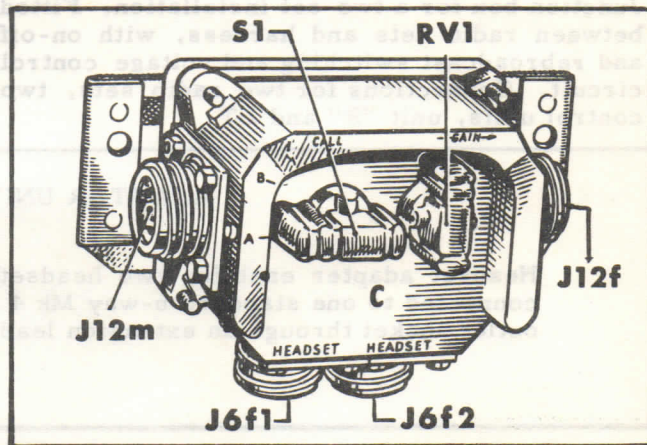
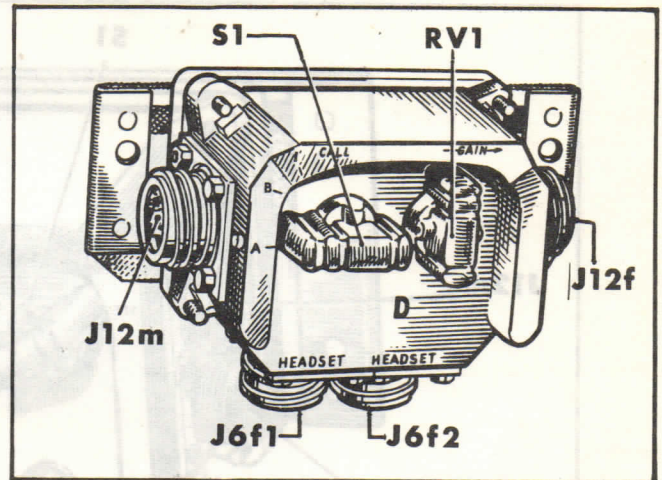
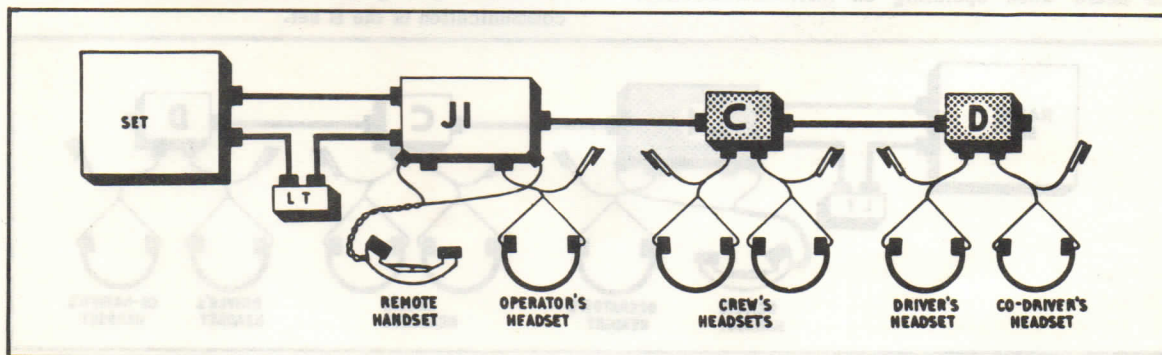

FIG 5 CONTROL UNIT, OPERATORS, C
FIG 7 CONTROL UNIT, DRIVER'S, D
FIG 6 CONTROL UNITS, C AND D
11. This is the operator's control box in either one set or two set stations. The unit is illustrated in Fig 5 and its position in a typical one set station is shown in Fig 6. The operator's control unit is fitted with a 12 contact plug J12m through which it is connected to other types of control unit. A 12 contact socket J12f enables the box to be connected to an additional control unit C or to a driver's control unit, D. Two 6 contact sockets are used for the connection of headsets. The following facilities are provided by the two controls on this box:
12. This is the control unit provided for use by the driver and co-driver in one set or two set stations. It is illustrated in Fig 7 and its position in a typical one set and two set station is indicated in Figs 6 and 21 respectively. The driver's control unit is fitted with a 12 contact plug J12m on the left hand side which enables the unit to be connected to other types of control units. Socket J12f on the right hand side provides for the connection of additional operator's control units, other driver's units, or a commander's microphone. Two 6 contact Mk 4 sockets are provided for the connection of operator's headsets. The following facilities are provided by the two controls on this box: